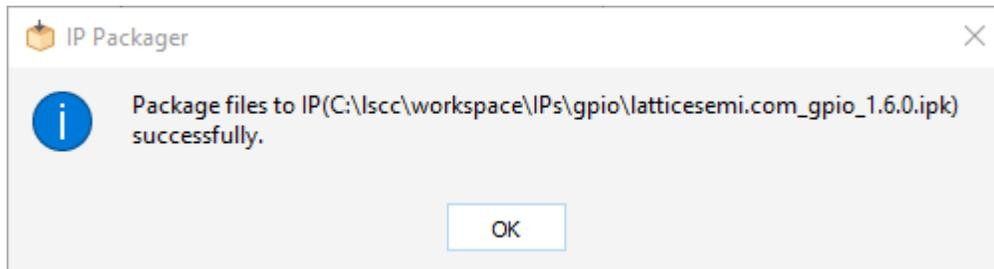

Figure 3.35. IP Packager Pops up Successful Packaging Message
2. IP Packager pops up a message showing the packaging is completed successfully (Figure 3.35).